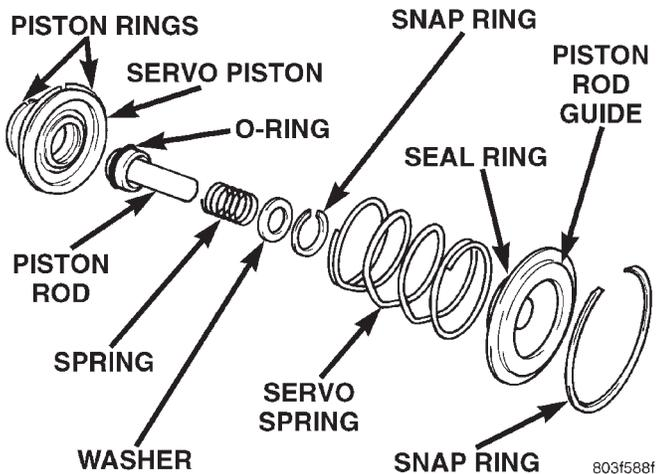

Fig. 161 Front Servo
- (1) Remove seal ring from rod guide (Fig. 161).
- (2) Remove small snap ring from servo piston rod. Then remove piston rod, spring and washer from piston.
- (3) Remove and discard servo component O-ring and seal rings.
- (1) Lubricate new O-ring and seal rings with petroleum jelly and install them on piston, guide and rod.
- (2) Install rod in piston. Install spring and washer on rod. Compress spring and install snap ring (Fig. 161).
- (3) Set servo components aside for installation during transmission reassembly.